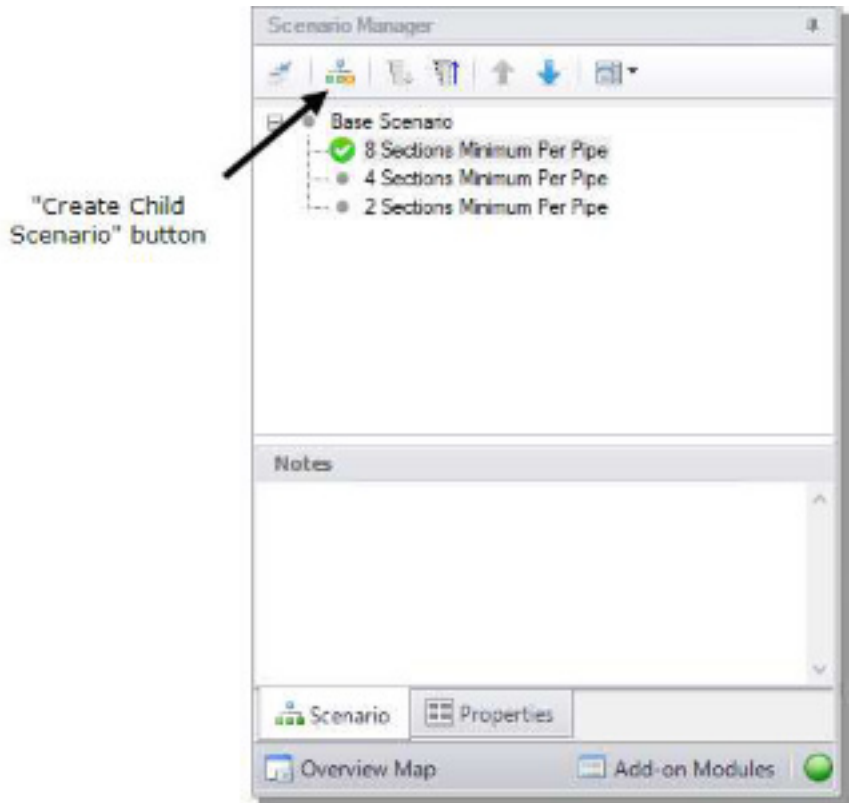

Figure 3.5 Create model variants and keep them organized using the Scenario Manager on the Quick Access Panel
- **Click the Create Child button on the Scenario Manager** on the Quick Access Panel. Name the child 8 Sections Minimum Per Pipe. A new scenario will appear below the Base Scenario in the scenario tree. Select the Base Scenario, create another child, and call it 4 Sections Minimum Per Pipe. Finally, select the Base Scenario again and create a third child called 2 Sections Minimum Per Pipe (see Figure 3.5). Note that the new child scenario is loaded when it is created using the Scenario Manager on the Quick Access Panel.
Child scenarios inherit data from their ancestor scenarios. As long as the data has not been modified in a child scenario, data parameters in the child scenario will have the same value as their parent. Scenarios can be loaded onto the Workspace by double-clicking their name in the Scenario Manager. The currently loaded scenario is indicated in the scenario tree with a green circle with a checkmark (Figure 3.5). Since the Base Scenario already has been set up with 8 Minimum Sections Per Pipe, the 8 Sections Minimum Per Pipe child does not need to be modified.